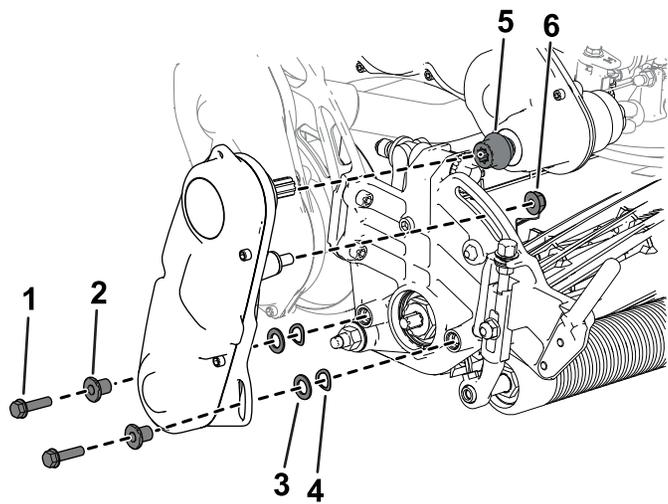

Figure 5
- Install the coupler to the transmission driveshaft (Figure 5).
- Use the previously removed hardware to install the reel-drive assembly to the cutting unit (Figure 5).
- Ensure that the coupler (Figure 5) can easily move back-and-forth on the transmission driveshaft.